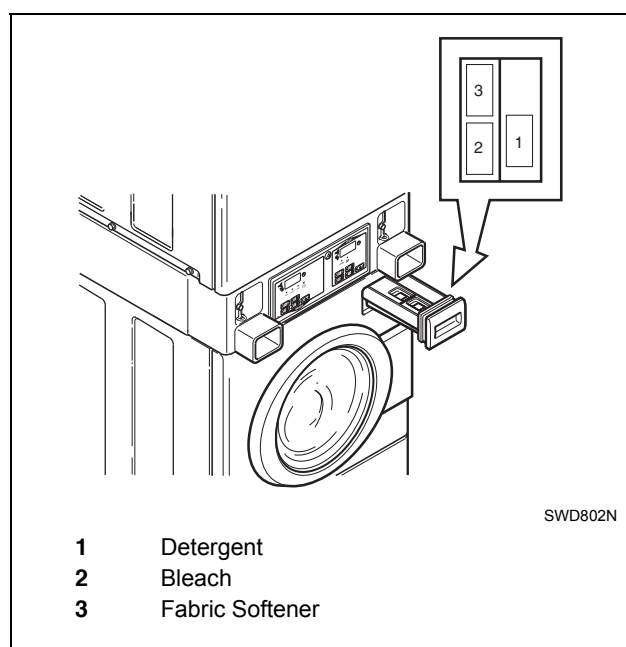

Figure 34
Open dispenser drawer. Measure and add low sudsing, high efficiency (HE) detergent (1), bleach (2) and fabric softener (3) to the dispenser drawer. Refer to *Figure 34*. Close dispenser drawer.